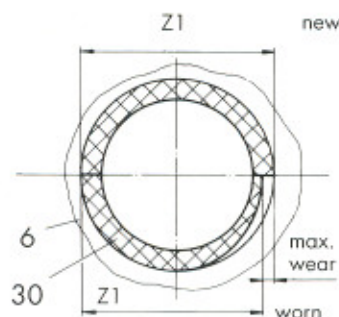

Fig. 14 Wear
The plastic bushes (30) of the twelve-point suspension must be changed when the max. wear has been reached (see Fig. 14 and Table 2).